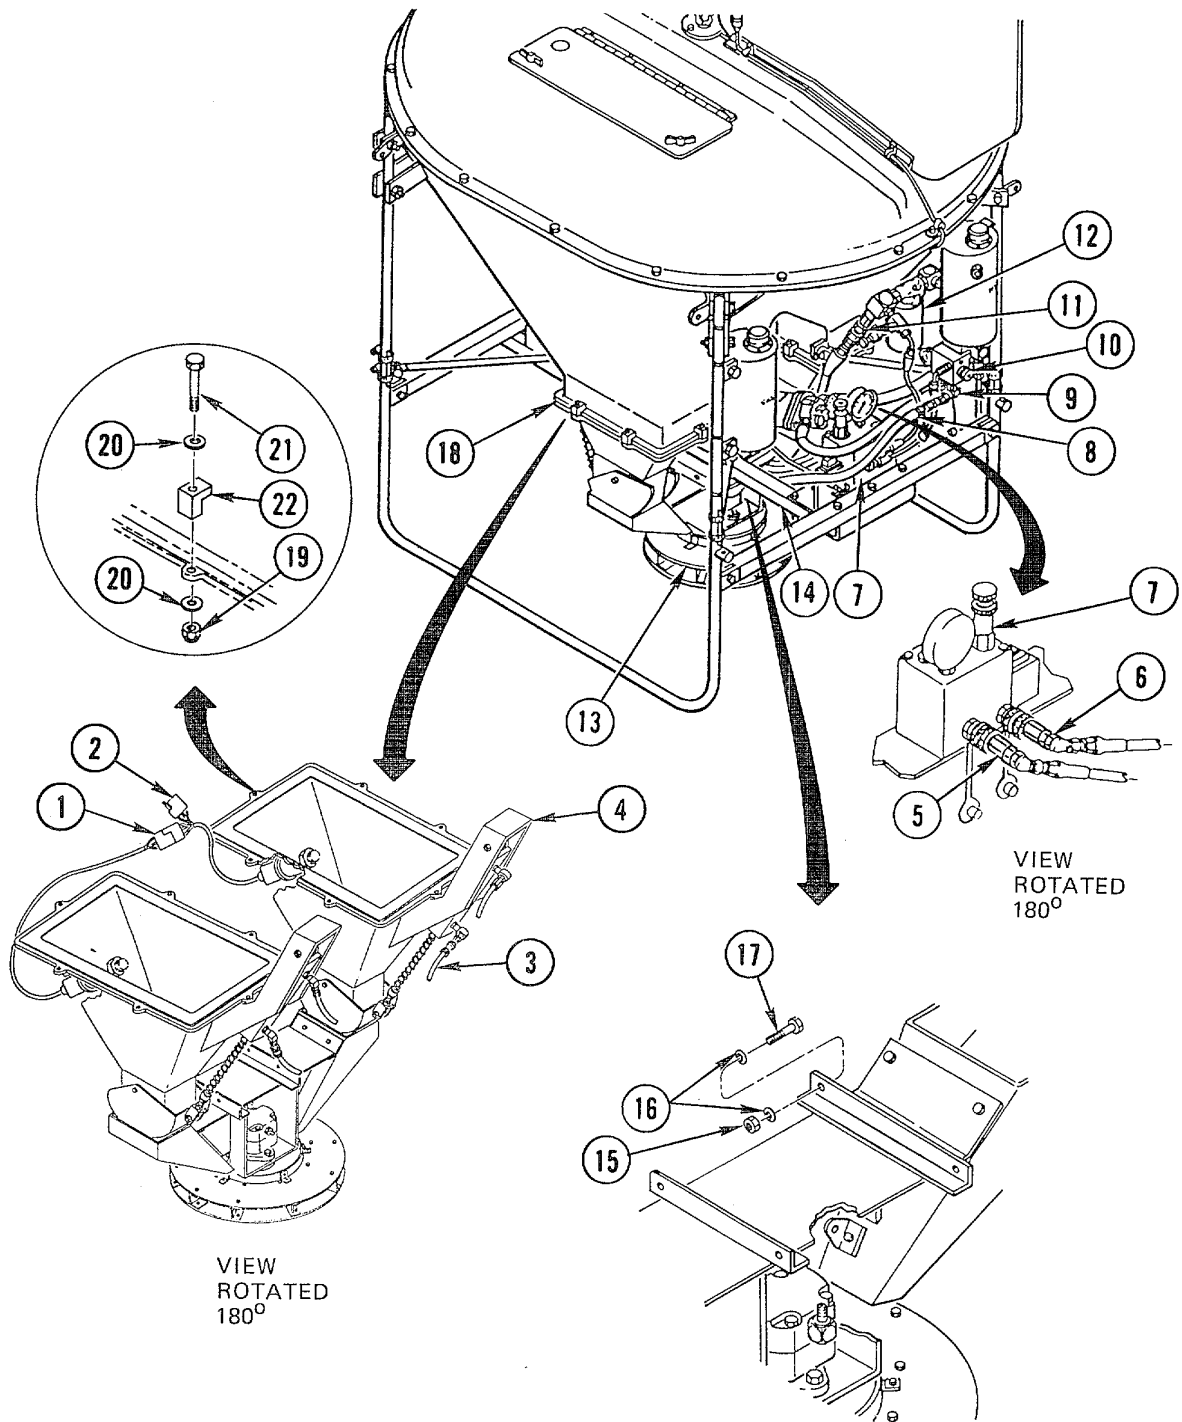

Figure 2-17. Disassembly of SD System
- (1) Spin slinger to ensure no loose or foreign objects are in slinger.
- (2) Disconnect left and right capacitive light switch wiring harnesses (1, figure 2-17) from each other. Disconnect left hopper assembly capacitive light switch wiring harness (2) from bucket wiring harness.
- (3) Remove and cap four hydraulic fittings (3) from two hopper cylinders (4).
- (4) Remove and cap two 1/4-in. hydraulic fittings (5 and 6) from back of secondary hydraulic manifold (7).